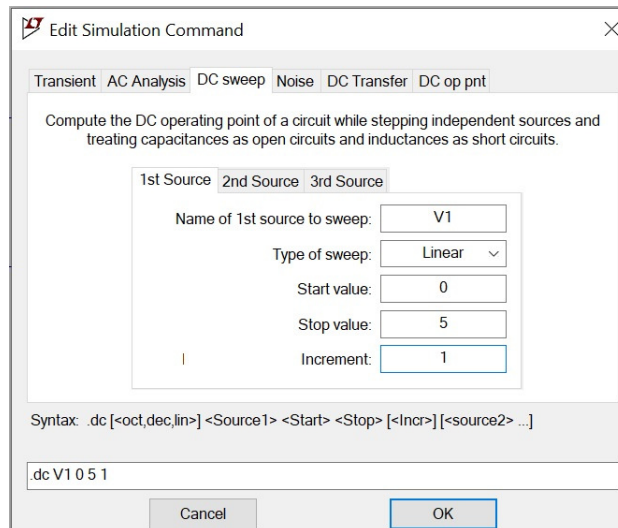

Figure 5: DC Sweep Setup
29) In the **1st source** tab, fill out and select the values as displayed in Figure 5 below